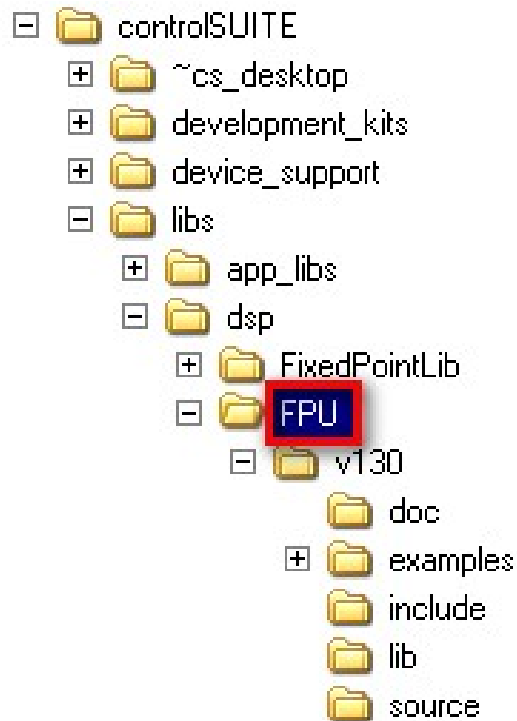

Figure 2.1: Directory Structure of the FPU Library
*VERSION* indicates the current revision of the FPU library. Figure 2.1 shows the directory structure while the subsequent table 2.1 provides a description for each folder.